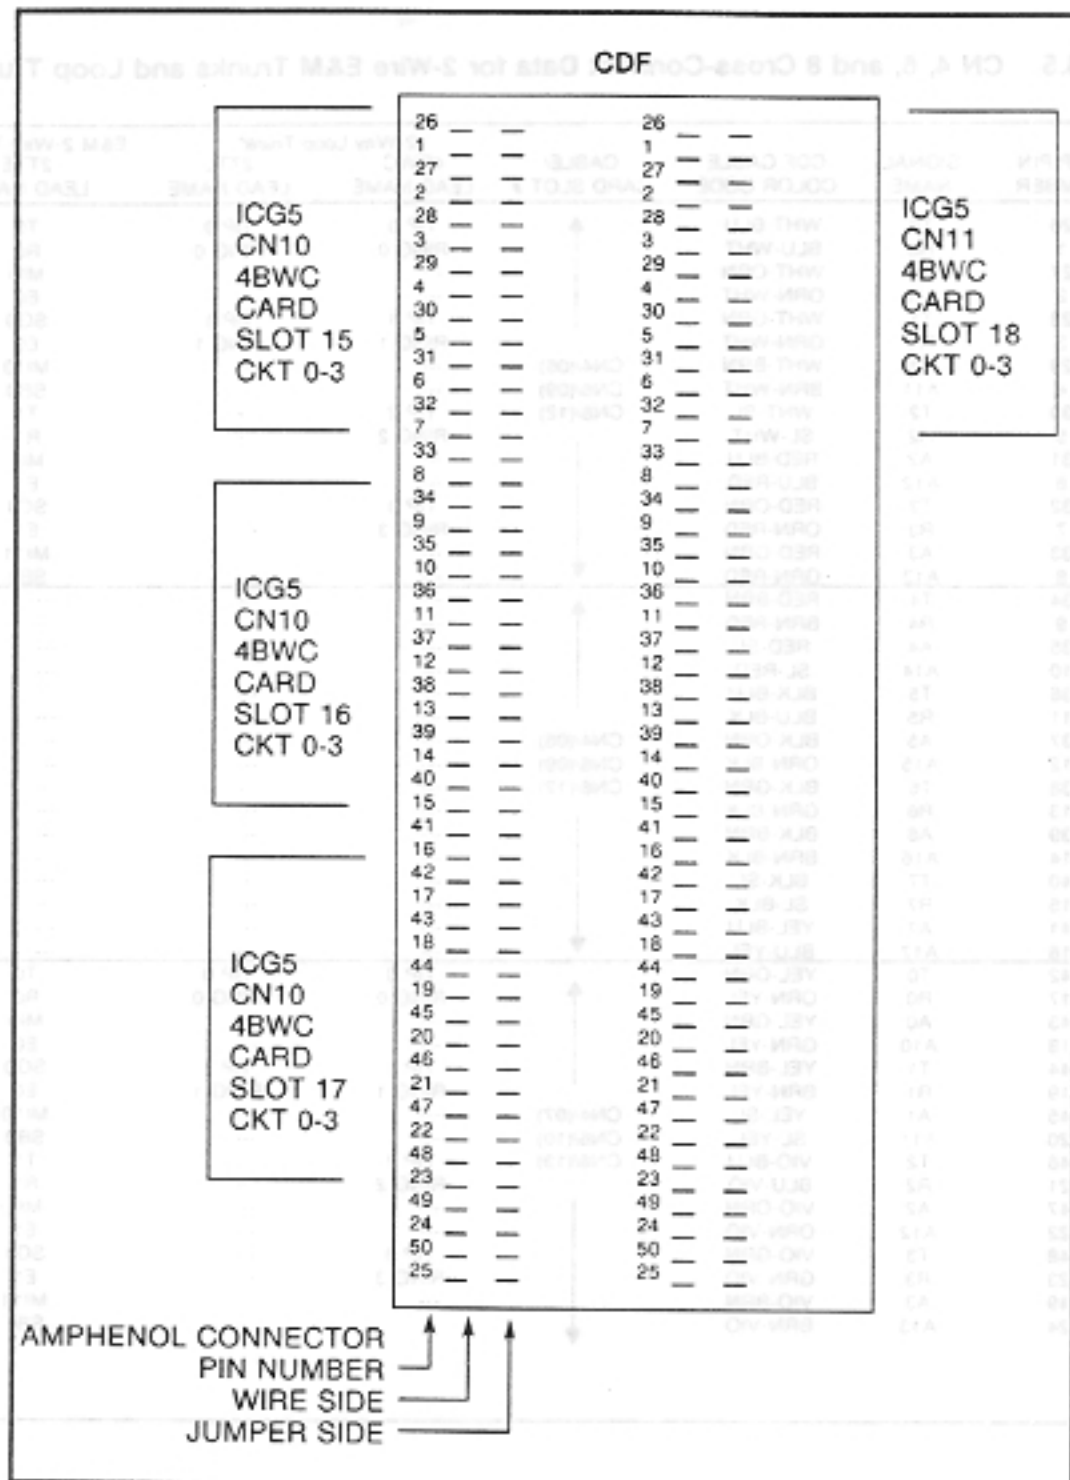

Figure 4.11 Typical CDF Terminal Block Connection for 4BWC Card
3. Connect the CDF cable to the cabinet and label/run to the CDF. Terminal block connection information is provided in Figure 4.11.